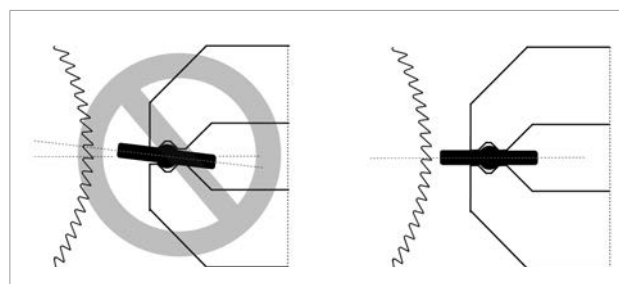
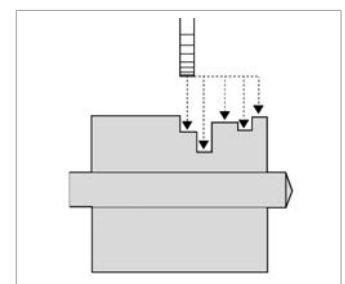

Fig.47
Fig.48
- 1) Use the lever (Q) to lock the right-hand clamp in the horizontal position.
- 2) Fit the keys into the clamps (original key in the left-hand clamp and key blank in the right-hand clamp) with the bit up against the stop (Y).
- 3) Close the clamps making sure that the key shafts are in the V groove and check that the key bits are perpendicular to the tracer point and cutter (Fig.47).
- 4) Lower the lever (Q) to release the right-hand clamp.
- 5) Turn on the machine with the ON/OFF switch (A).
- 6) Use the lever (L) to slowly take the carriage towards the cutter and press the button (B) to start the motor.
- 7) Hold the lever (R) slightly raised with the key facing downwards.
- 8) Take the cut closest to the original key tip against the tracer point and lower the lever (R) to round off the cut.
- 9) Take the carriage back to come out of the cut. Move the carriage sideways and enter the next cut (Fig.48). Do not move sideways once into the cut.